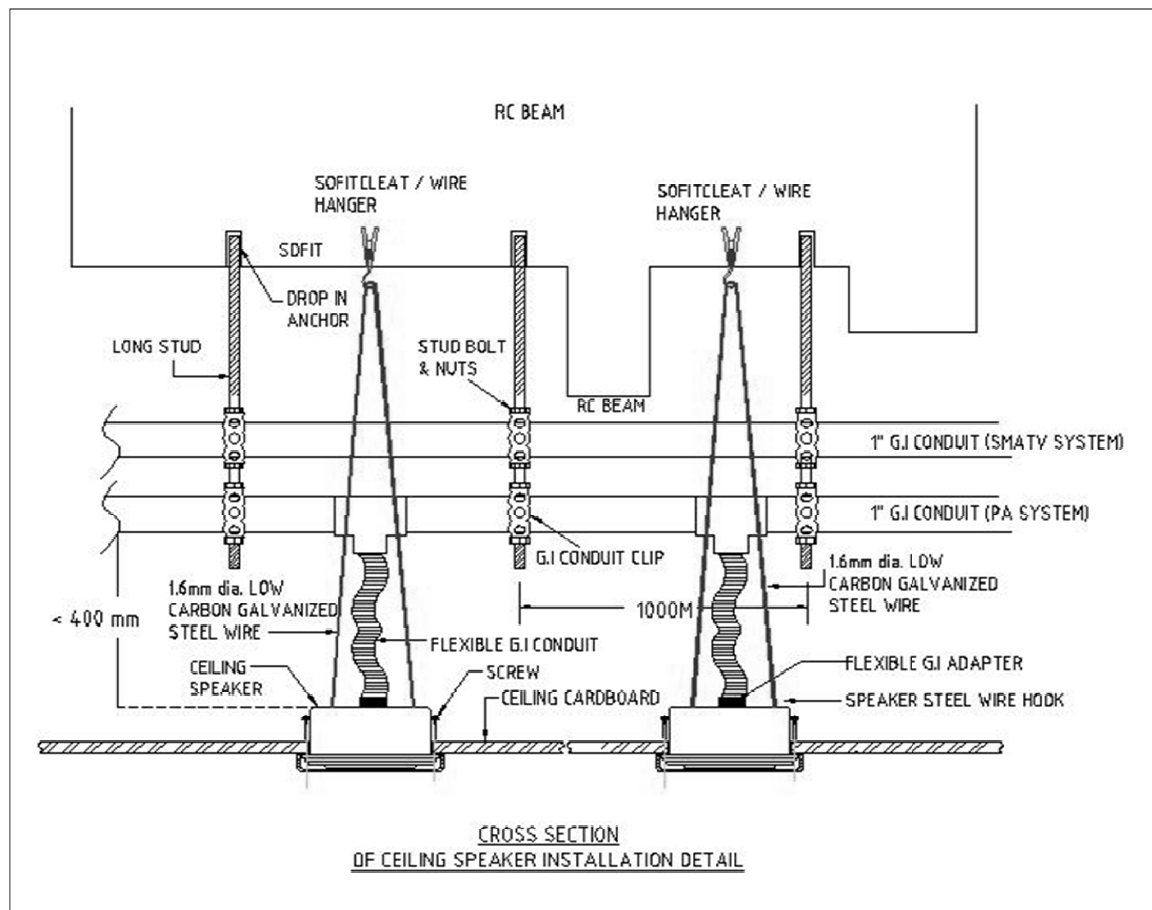

Figure 1: Typical ceiling loudspeaker installation
10.0.1 The installation of the loudspeaker shall be based on a coordinated services drawing. Loudspeaker mounted on false/suspended ceiling shall be supported adequately by an approved mean to carry its own weight and not rested directly on the ceiling. A typical ceiling recessed installation is shown in Figure 1.